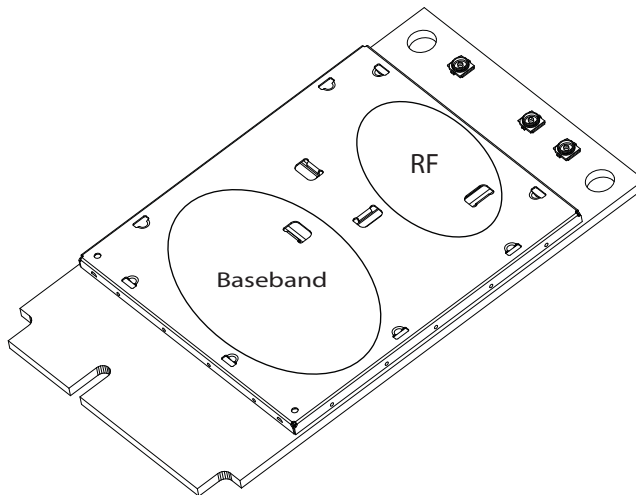

Figure 7-4: Shield locations (Top view)
Specific areas requiring heat dissipation are shown in Figure 7-4:
- Monitor temperature on the underside of the module. Attach thermocouples to the areas indicated in Figure 7-4 on page 60 (Baseband, RF).